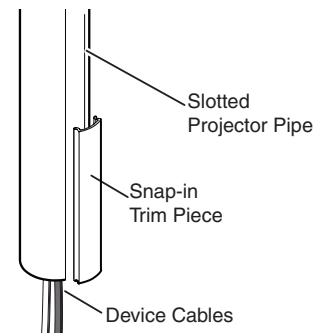

Figure 7. Snap in Trim Piece.
- b. Tuck the signal cables into the slotted pipe and firmly snap the trim piece into place (see figure 7).